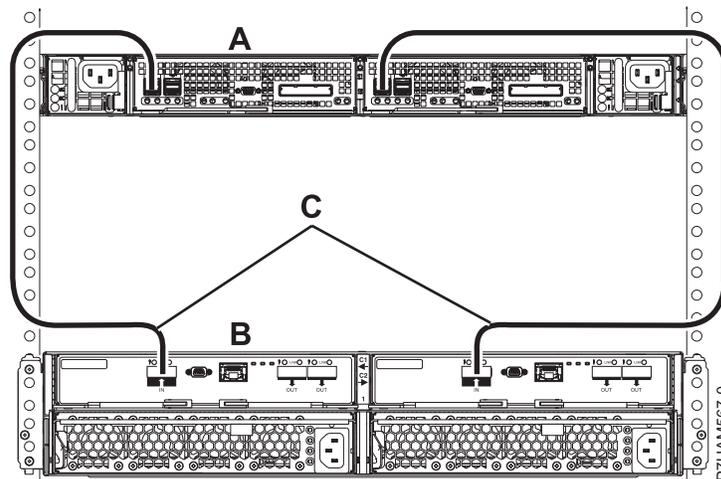

Figure 39. Mode 1 connection of one 58/87 disk drive enclosure by using EX cables to a PCIe storage enclosure
13. Perform the mode 1 connection of one 58/87 disk drive enclosure (B) by using EX cables (C) to a PCIe storage enclosure with support for SAS disk drawers (A) as shown in Figure 39.
- Each internal adapter in the PCIe storage enclosure (A) has access to the other adapter and to all disk drive bays.
- Both EX cables (C) from the same 58/87 disk drive enclosure must be attached to the same numbered SAS port on the PCIe storage enclosure as shown in Figure 39.